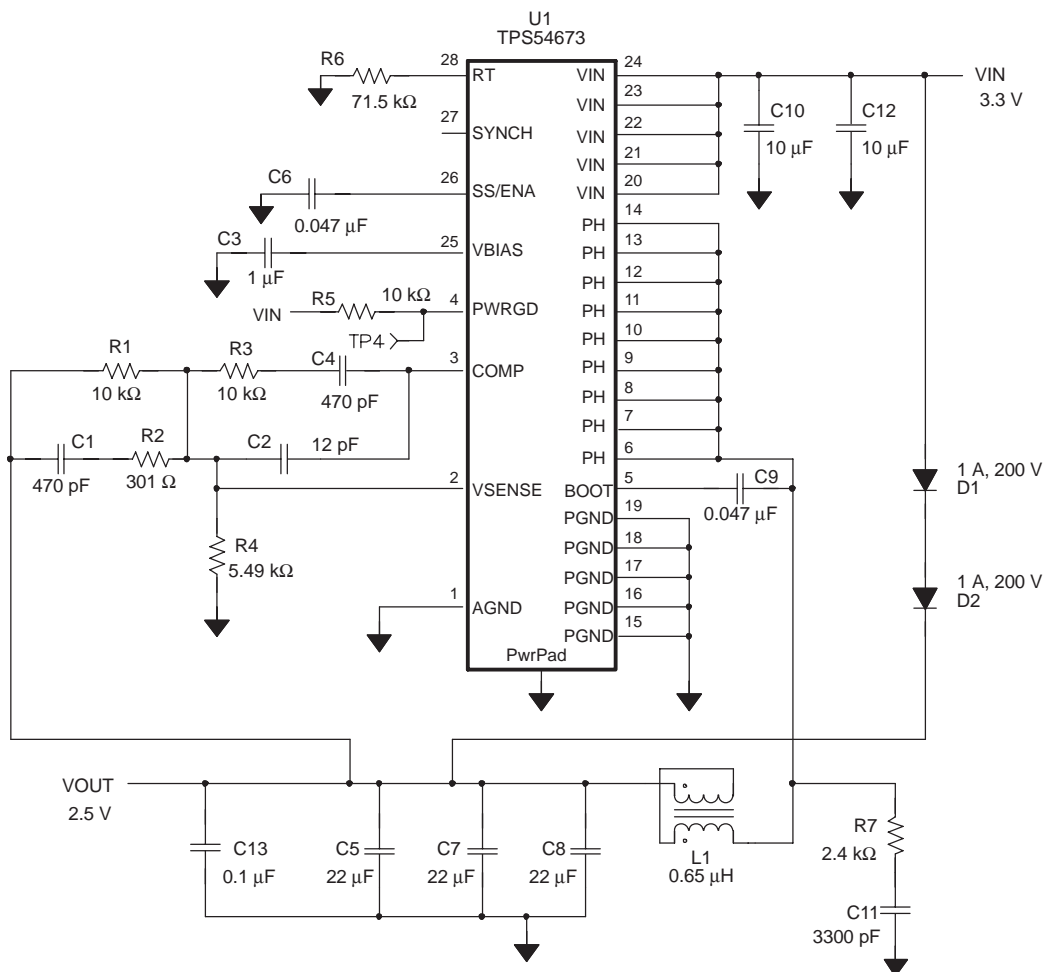
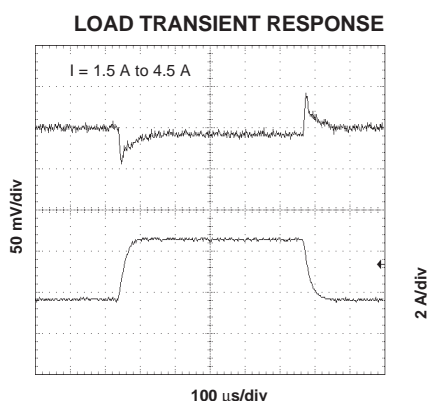

Figure 10. Application Circuit
Figure 19
(1) Specified by design
(2) Static resistive loads only
(3) Specified by the circuit used in Figure 10
⁽³⁾ Specified by the circuit used in Figure 10
Figure 10 shows the schematic diagram for a typical TPS54673 application. The TPS54673 (U1) can provide up to 6 A of output current at a nominal output voltage of 0.9 V to 3.3 V, and for this application, the output voltage
Data shown is for the circuit in Figure 10 with precharge disabled (D1 and D2 removed) except for slow-start timing of Figure 19. All data is for $V_I = 3.3$ V, $V_O = 2.5$ V, $f_s = 700$ kHz and $T_A = 25^\circ\text{C}$, unless otherwise specified.